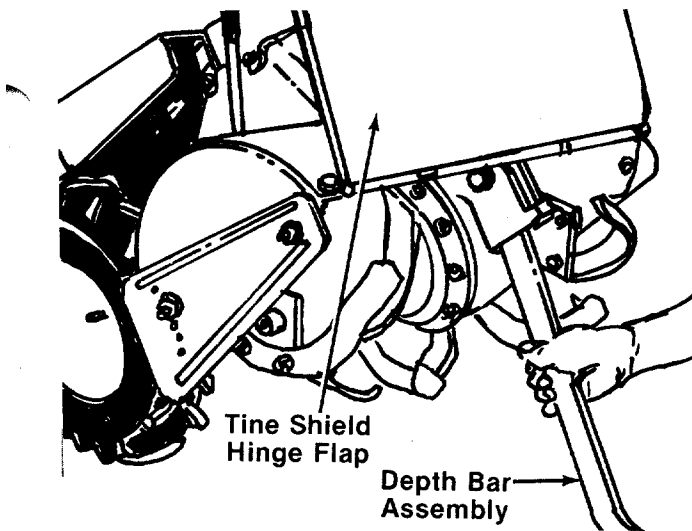

FIGURE 4.
4. Raise the tine shield hinge flap assembly. Insert the depth bar assembly up through the tine shield assembly as shown in figure 4.